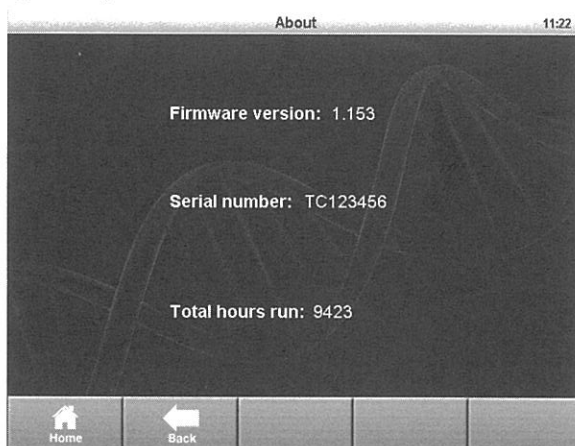

Figure 28. The About screen.
2. Select **About** (Figure 28).